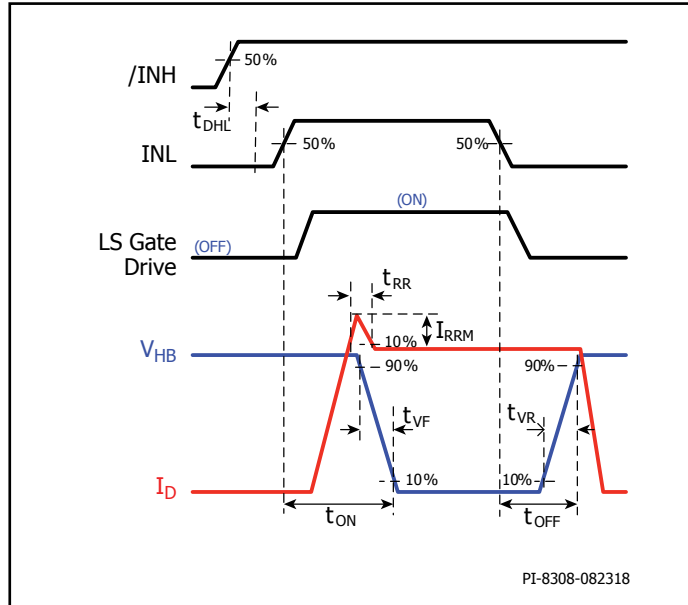

Figure 27. Low-Side FREDFET Switching Timing.
- Assumes control input /INH was high for an idling period of t_{IDLE} > t_{DHL}. The required minimum INL high time for internal communication increases by t_{DHL} - t_{IDLE} if t_{IDLE} < t_{DHL} (refer to Figure 27).